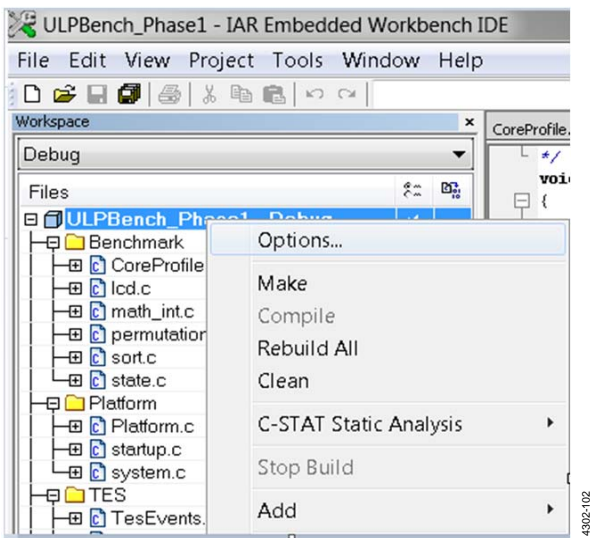

Figure 2. Project Options
1. Right-click the name of the project and click **Options...**, as shown in Figure 2.